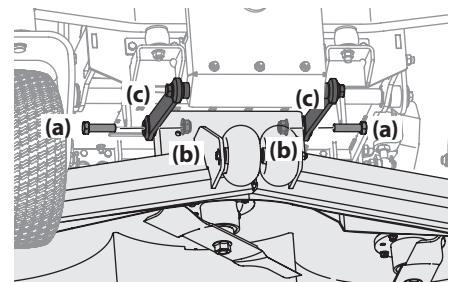

Figure 53
- Remove the hex screws (a) and flange lock nuts (b) securing the front deck control rods (c) to the deck. See Figure 53.